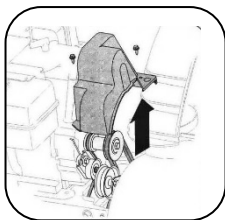

Fig.20
1. Remove the belt guard from the front of the engine by removing the two self-tapping screws. See Figure 20. NB: Empty the petrol from the snow thrower.